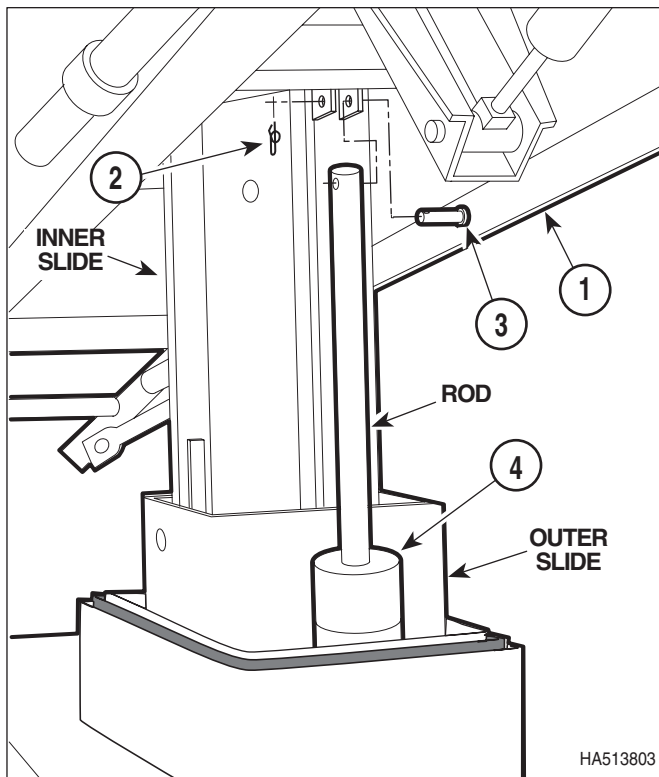

Figure 4-28. Litter Top Removal / Installation
- (1) Lower litter top (1, Figure 4-28) as far as it will go.
- (2) Lower bellows or top column cover for access (Refer to para 4.3 or 4.3.1).
- (3) Remove rue ring (2) and clevis pin (3) which attaches litter top (1) to rod of elevation cylinder (4).